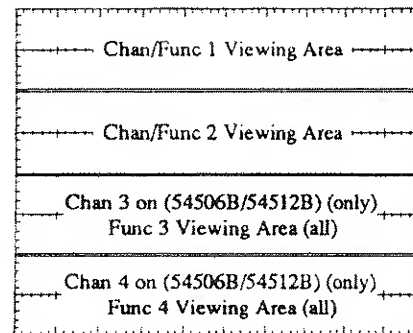

Figure 9-5. Four Screen w/Function On
- In the four screen mode, each channel/function is displayed in the corresponding portion of the display as shown in figure 9-5.